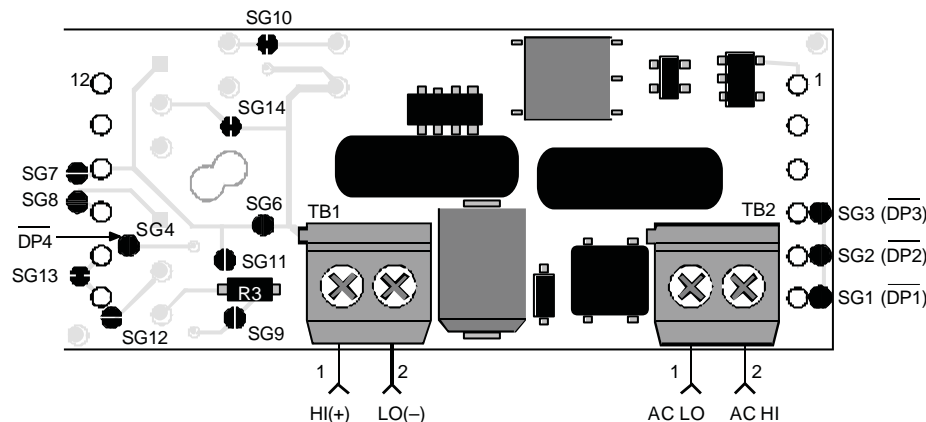

Figure 2. DMS-EB-AC/DC Board
4. DMS-40LCD Meters: To change the input range on DMS-40LCD meters from the default low-range (i.e., with pin 2 of the meter open) to the high range, short pin 2 to pin 1 (+5V) on the top right side of DMS-EB-AC/DC board (refer to Figure 2 and the DMS-40LCD data sheet for more information).
6. Solder Gap Identification (See Figure 2): Each solder gap's respective number is printed directly on the pc-board surface in copper etch. Be sure to double check all solder gap modifications before applying ac power and the input signal to the DMS-EB-AC/DC.